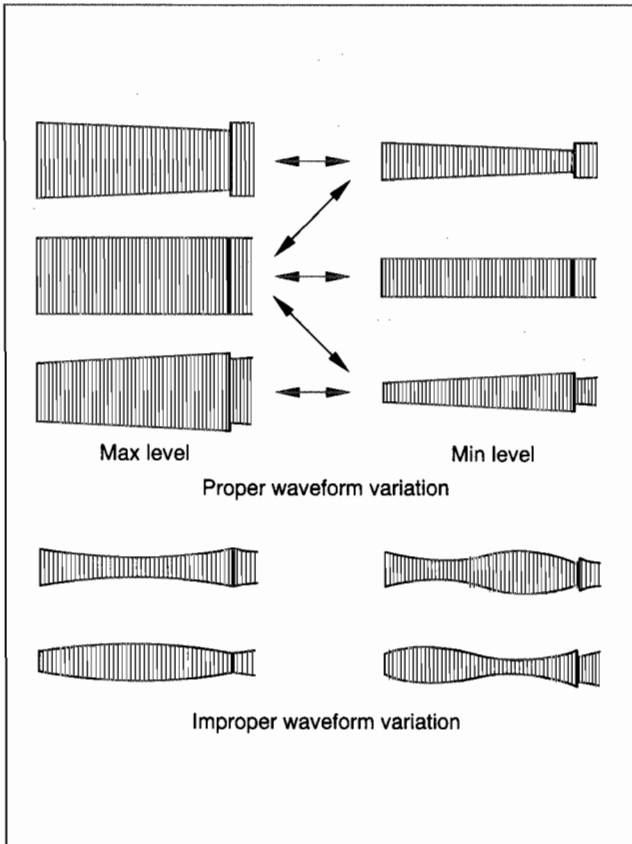

Fig. 2-3-1
- (1) Connect the oscilloscope to TP106(V. PB FM) of the main board assembly and to TP111(D.FF) of the main board assembly for external sync connection.
- (2) Playing the alignment tape MHPE, observe the FM waveform.
- (3) Press the channel buttons (▲, ▼) simultaneously during playback to enter the manual tracking mode. (This also brings tracking to the centre.)
- (4) Make sure that there is no significant level drop of the FM waveform caused by the tracking operation, with its generally parallel and linear variation ensured. Perform the following adjustments when required. (See Fig.2-3-1.)